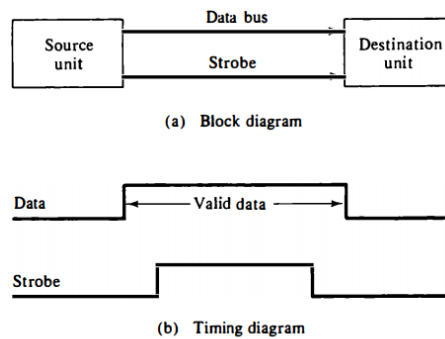

Figure 3 Source-initiated strobe for data transfer.
- **The strobe control** method of asynchronous data transfer employs a single control line to time each transfer. The strobe may be activated by either the source or the destination unit. Figure 3(a) shows a source-initiated transfer.
- **As shown** in the timing diagram of Fig. 3(b), the source unit first places the data on the data bus.
- **For example**, the strobe of Fig. 3 could be a memory-write control signal from the CPU to a memory unit. The source, being the CPU, places a word on the data bus and informs the memory unit, which is the destination, that this is a write operation.